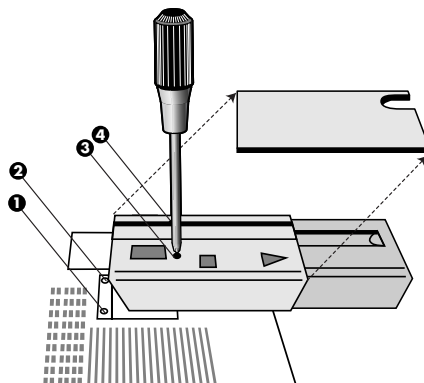

Figure S.2
4. Remove cable cover. Remove the 4 screws connecting the monitor to the stand and lift off the stand assembly (Figure S.2). The monitor is now ready for mounting in an alternate manner.